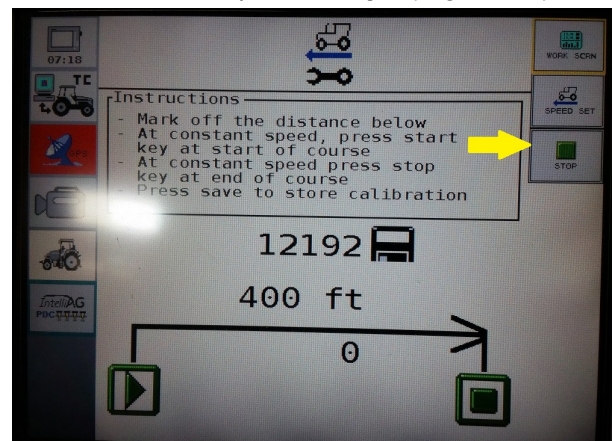

Figure 71
Step 7. Once tractor reaches end of 400 ft course, press **Stop**. (Figure 71)